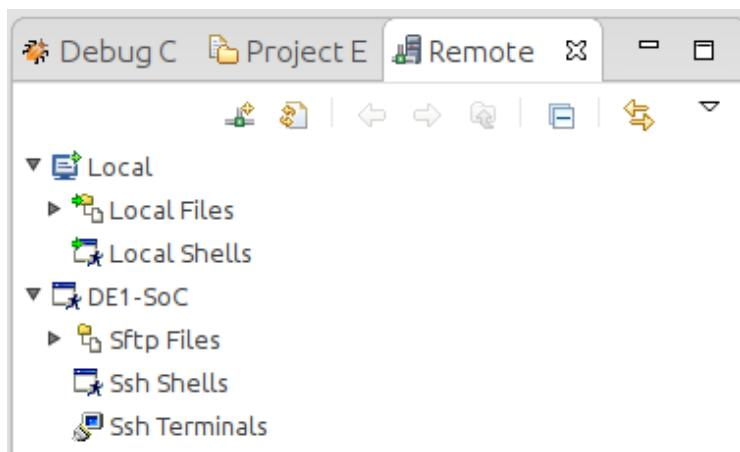

Figure 13-18. New SSH Connection In "Remote Systems" View
73. You should be able to see the remote system in ARM DS-5's "Remote Systems" view, as shown in Figure 13-18.